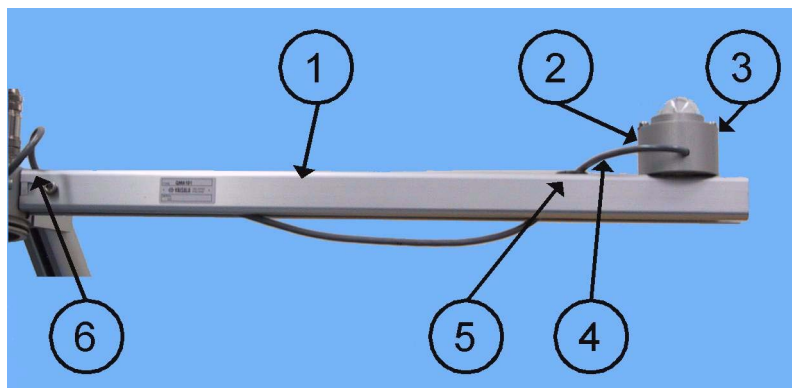

Figure 73 **Installing Pyranometer on Sensor Arm**
1. Attach the pyranometer (2) to the sensor arm (1) using the bolts (3) provided. For the explanation of the numbers, see Figure 73 on page 84.